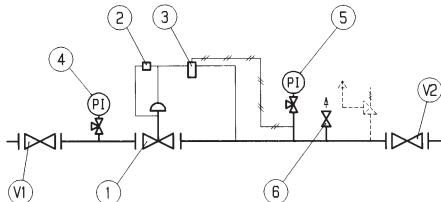

Fig. 14
5.3 MESSA IN SERVIZIO DEL REGOLATORE APERVAL (FIG. 14)
5.3 COMMISSIONING THE REGULATOR APERVAL (FIG. 14)
5.3 INBETRIEBNAHME DES REGLERS APERVAL (ABB. 14)
5.3 MISE EN SERVICE DU DÉTENDEUR APERVAL (FIG. 14)
5.3 ACTIVAÇÃO DO REGULADOR APERVAL (FIG. 14)